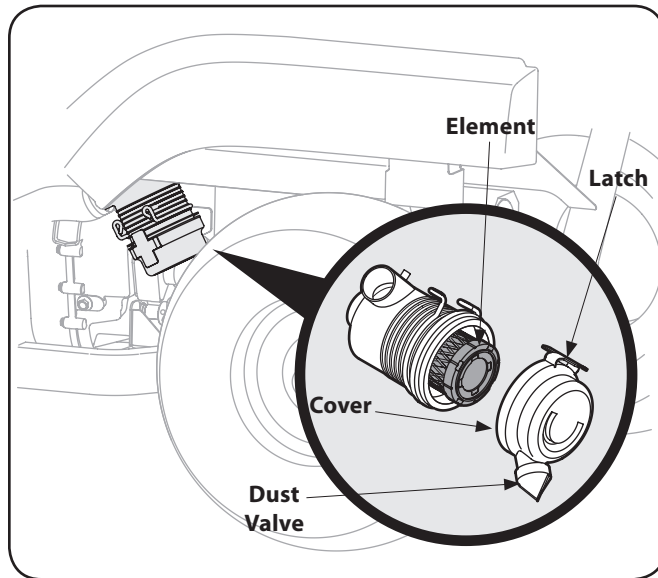

Figure 6-1
1. Pull up on latch and turn counter-clockwise to release air cleaner cover. See Fig. 6-1.
IMPORTANT: When reattaching cover, make certain that dust valve is pointing downward. See Fig. 6-1 inset.